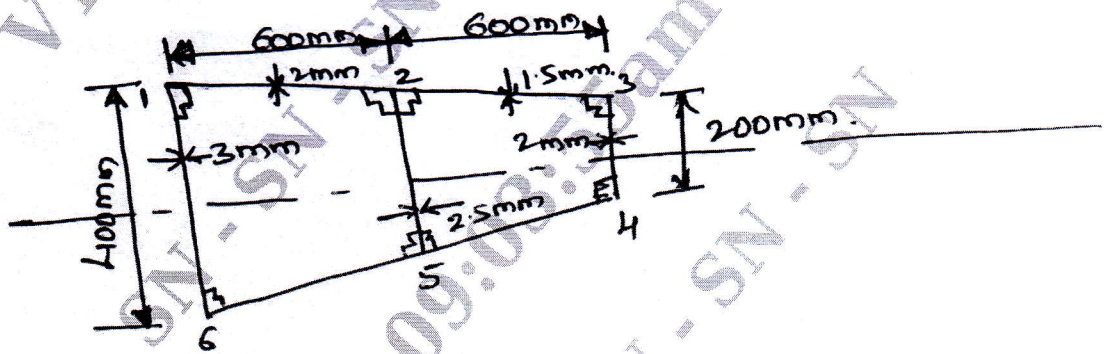

Fig. Q7 (a)
- 7 a. A wing section is in the form of 2 cell box as shown in Fig. Q7 (a), in which vertical spars are connected to the wing skin through angle section, all having cross sectional area of 300 mm^2 . Idealize the section.